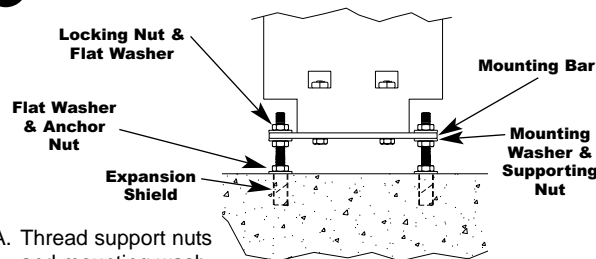

FIGURE 5
- Insert expansion shields or other floor fasteners and position 3/8" threaded rods, each secured with a flat washer and anchor nut at floor level. See figure 5.
- Level the pilasters from one compartment to the next by adjusting the support nuts on the threading rods. See figure 5.